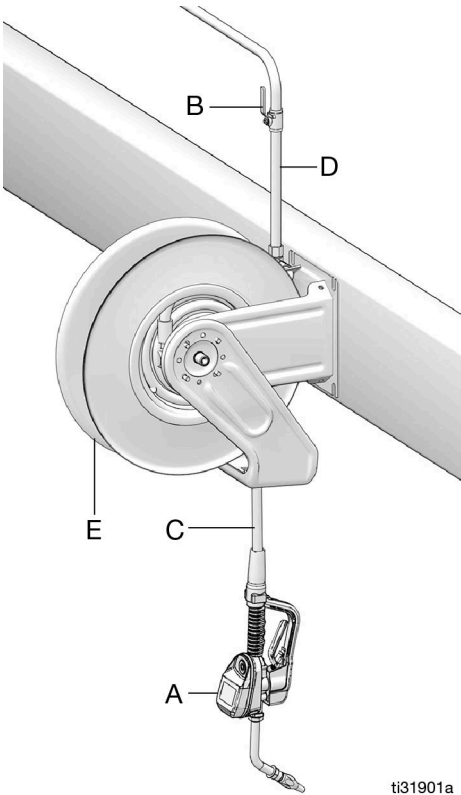

FIG. 6
The typical installation shown in FIG. 6 is only a guide. It is not a complete system design. Contact your Graco distributor for assistance in designing a system.
2. Close the shut-off valve (B, FIG. 6, page 9).
1. Close the fluid shut-off valve (B, FIG. 6, page 9) at each dispense position.
4. Slowly open the shut-off valve (B) at the dispense position. Flush out a sufficient amount of oil to ensure that the entire system is clean; then close the valve.